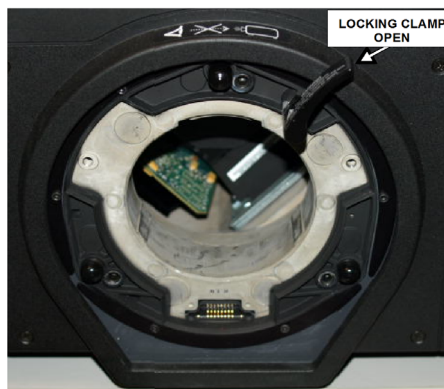

FIGURE 2-1 LOCKING CLAMP OPEN
1. Rotate the lens clamp to the OPEN position, see Figure 2-1.